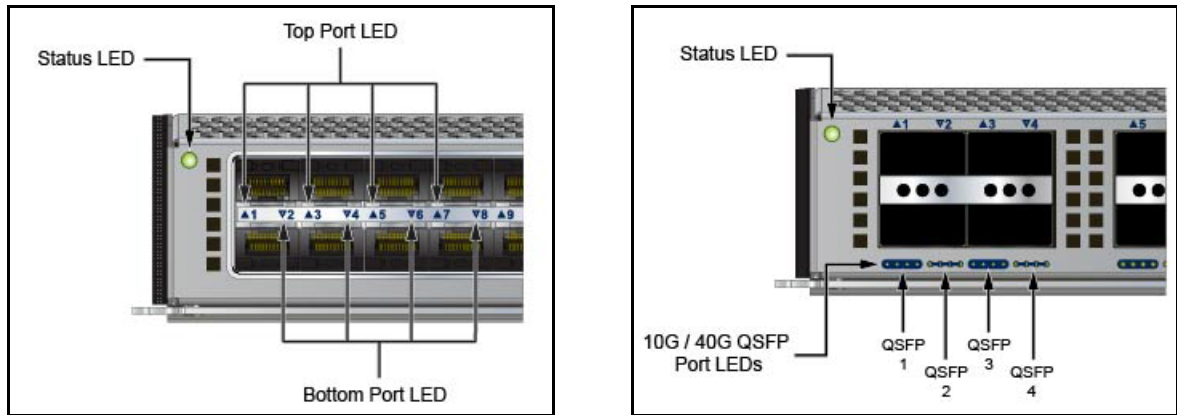

Figure 28: line card Status LEDs (DCS-7300X-LC and DCS-7300X-32Q-LC)
Each line card module provides one status LED plus LEDs for each port on the card. The figures in Appendix F indicate the location of the LEDs on each line card. Figure 28-left displays the status LED and Port LEDs on the left side of the DCS-7300X-64S-LC line card. Figure 28-right displays the status LED and Port LEDs on the left side of the DCS-7300X-32Q-LC line card.
- Figure 28-left displays SFP module LEDs. Each LED corresponds to a module.
- Figure 28-right displays QSFP module LEDs. A set of four LEDs correspond to each module. When the module is programmed as a 40G port, the first LED in the set reports status. When the module is programmed as four 10G ports, each port is assigned to an LED within the set.